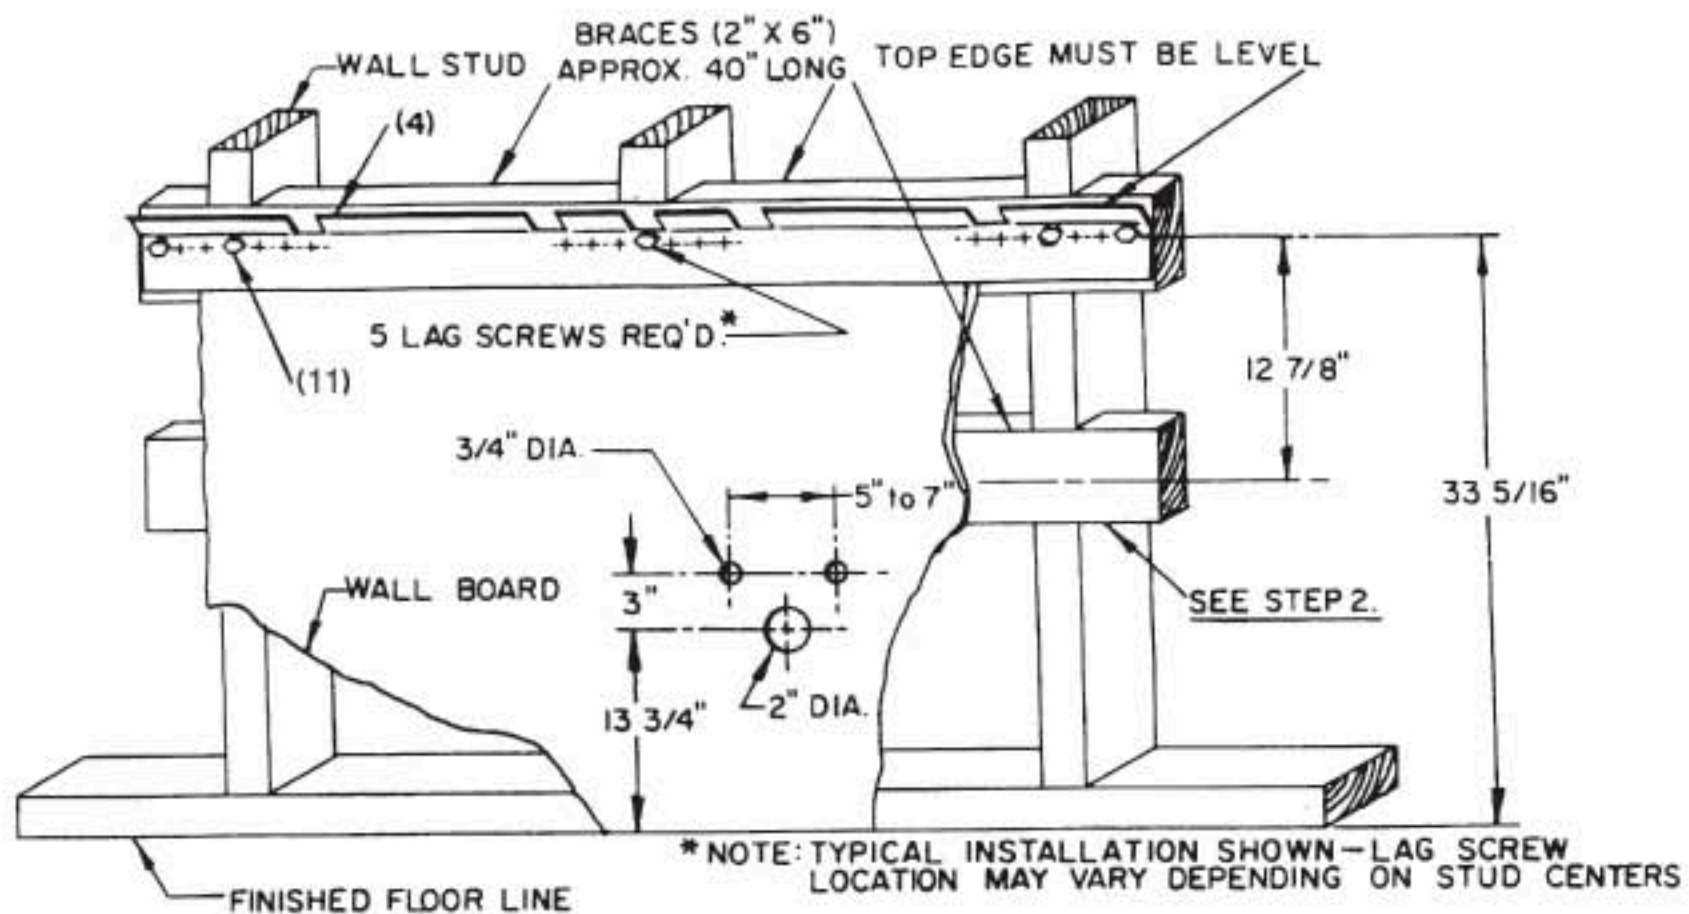

FIGURE 1.
2. Place **Laundry Tray** (1) on wall plate, mark location of Molded Side Filler (2) & (3) mounting tab holes. Remove **Laundry Tray** and follow drilling / anchoring procedures as outlined in Step 1. See Figure 1.